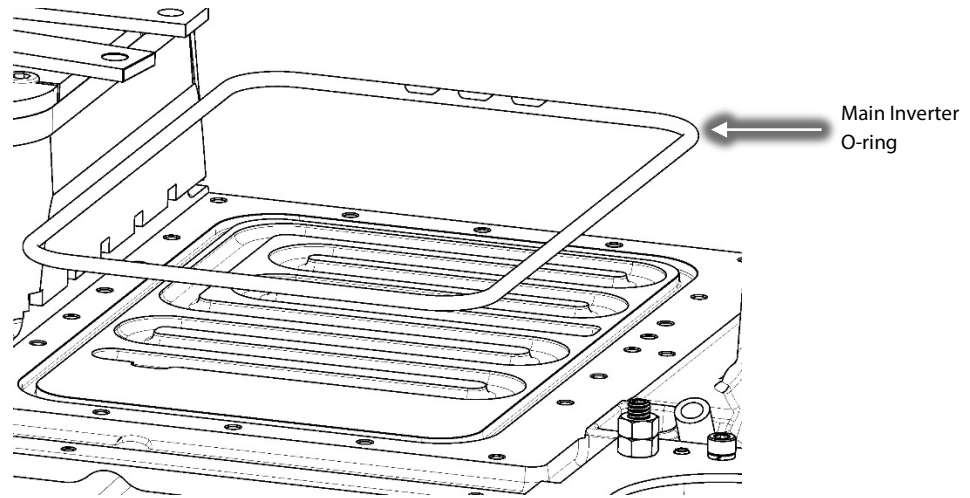

Figure 21 – Inverter O-ring Removal
30. Remove and discard the large Inverter O-ring from the compressor housing. (Refer to Figure 21 (Inverter O-ring Removal)).